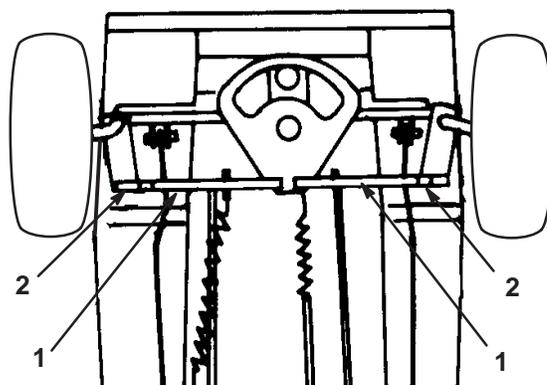

Figure 19
Maintain toe-in of the front wheels as specified. If uneven tire wear, lawn scuffing or hard steering develop adjustment may be required. Check the toe-in after every 100 operating hours or yearly, whichever occurs first (Fig. 19).
3. Measure, between the wheels, at spindle level, in the front and rear of the wheels (Fig. 19).
1. To align front wheels, loosen jam nut and turn tie rod end (there is only one adjustable tie rod) until center line distance across front of wheels (d') is .06 inch (1.5 mm) to .25 inch (6.3 mm) less than center line distance across rear of front wheels (d'') (Fig. 19 & 20).